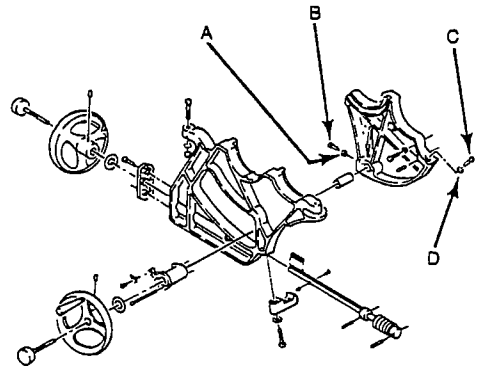

FIGURE 10
- Loosen locknut D (Figure 10).
- Loosen locknut A (Figures 10 and 11).